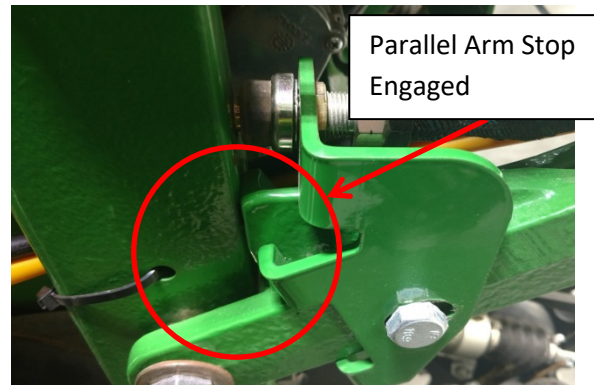

Figure 1
Step 1: Lift the planter until the Row Unit Stop on the Parallel arms engages (Figure 1)